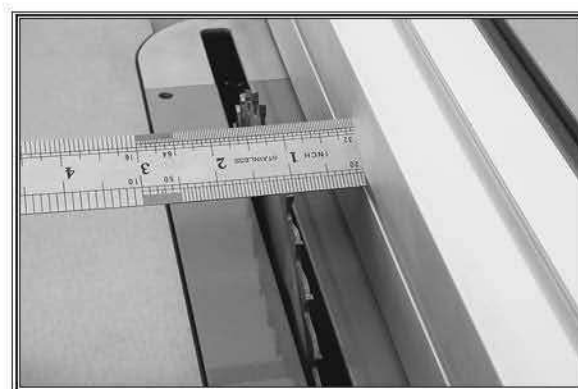

Figure 30. Checking calibration of fence scale.
24. Check fence scale calibration by moving fence to 1" mark on scale and measuring distance between blade tooth (see **Figure 30**) and fence.